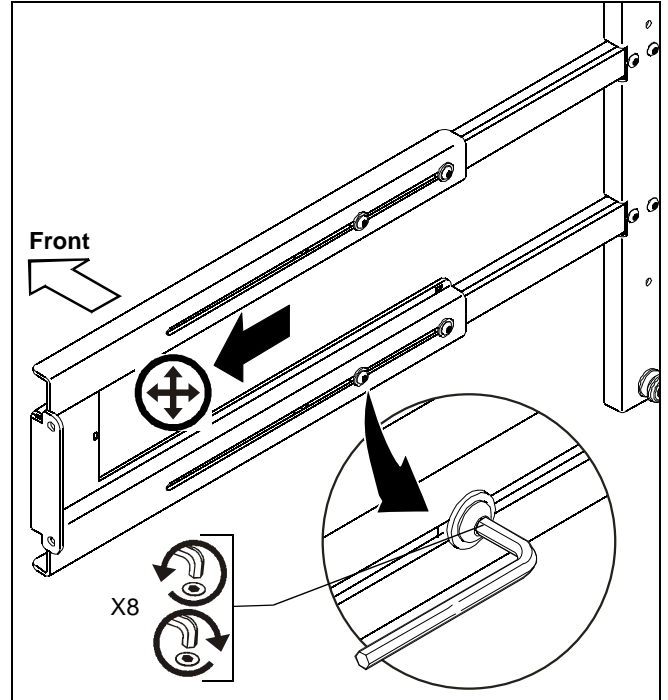
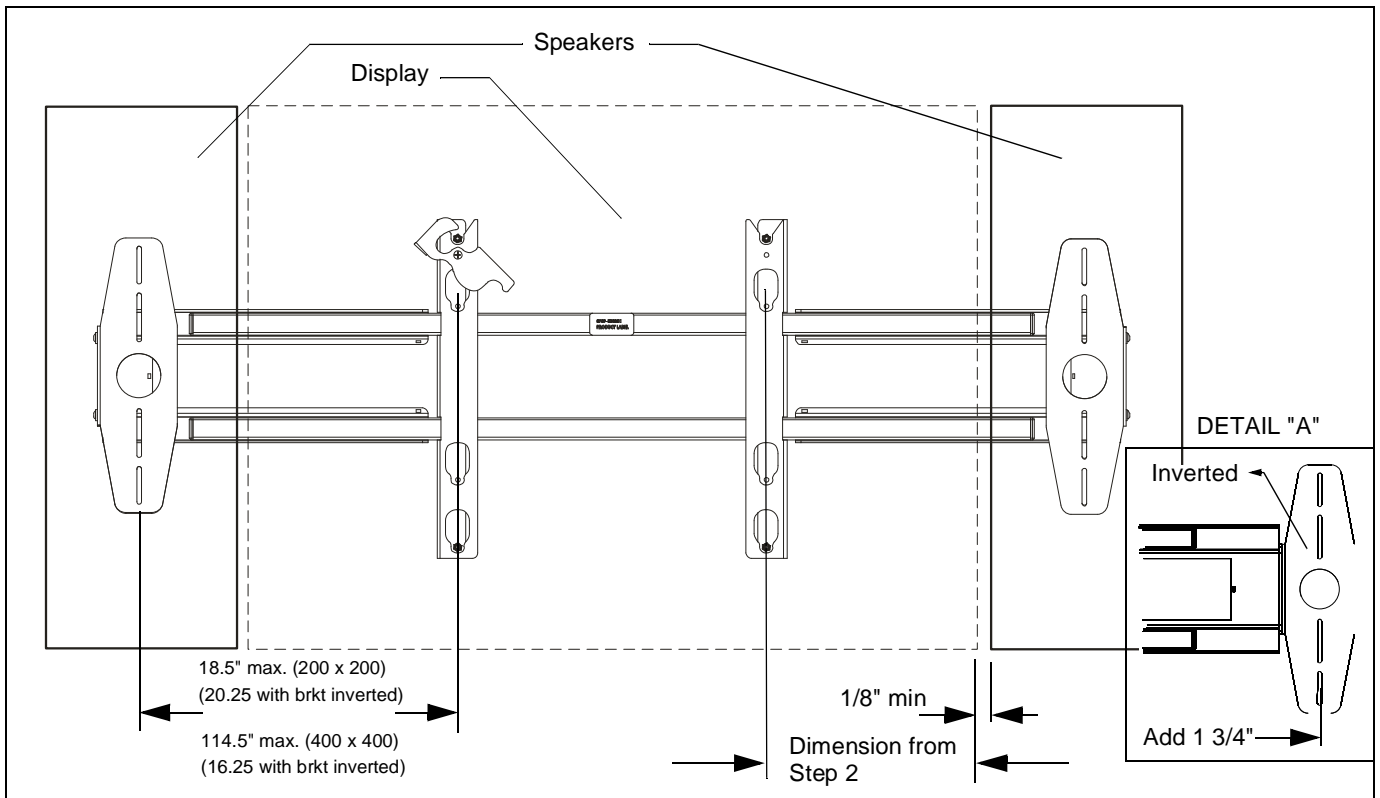

Figure 4
Figure 5
3. Loosen eight button head cap screws and slide speaker rails outward until required distance between speakers is obtained. (See Figure 4) and (See Figure 5)
**NOTE:** An additional 1 3/4" (each end) of speaker rail extension can be obtained by inverting the speaker mounting bracket as shown in DETAIL "A" in figure below. (See Figure 5)